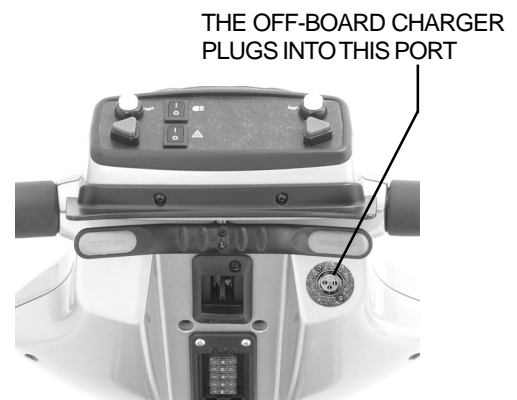

FIGURE 9. OFF-BOARD CHARGER PORT
4. Plug the appropriate end of the off-board charger into the off-board charger port. See figure 9.